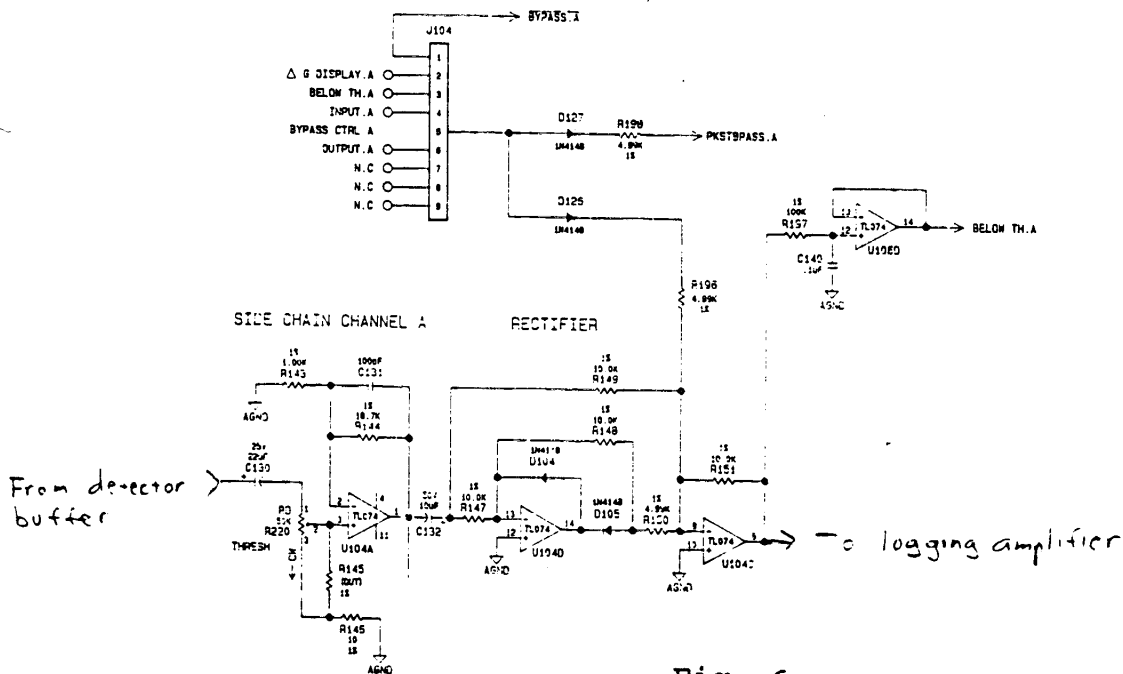
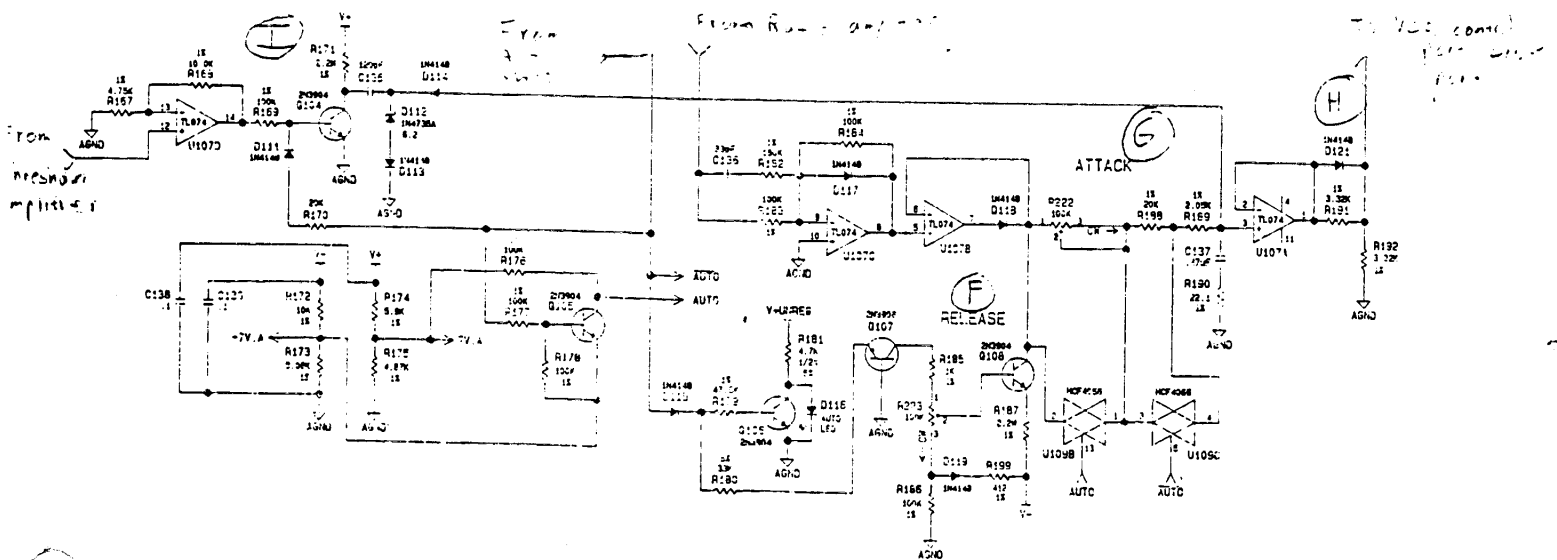

Fig. 6
Fig. 11
This section performs two functions; provides an adjustable gain amplifier (threshold) for limiter function sensitivity, and full-wave rectifies the audio signal as a first step in the AC to DC conversion process. See Fig. 6 For a diagram of waveform outputs of this stage. Also included is a ripple filter for use as a signal driver for the " below threshold " level LED indicators (see display board section for details).
7. Section I becomes active (see Fig. 11)
When the auto mode is enabled, the circuit designated section I (Fig. 11) becomes active. This circuit is called a " nibbler " circuit. The nibbler is basically a pulse generator which is driven by the audio signal output of the Threshold amplifier (see Fig. 6), so the pulse frequency is the same as the side chain input signal. The pulse train output of Q104 is capacitor coupled (and rectified by D114) to the attack/release charge/discharge node of the rms limiter. The pulse output of Q104 has the effect of pulling a small amount of charge out of C137 through C135 during the transitional portion of the pulse train (edge triggered). The more of these transitions that occur during any given time-frame, the more current will be pulled or " nibbled " out of C137. This causes the release time to become shorter. So then there becomes a inverse relationship between signal frequency and release time: the higher the signal frequency, the shorter the release time of the rms limiter section.